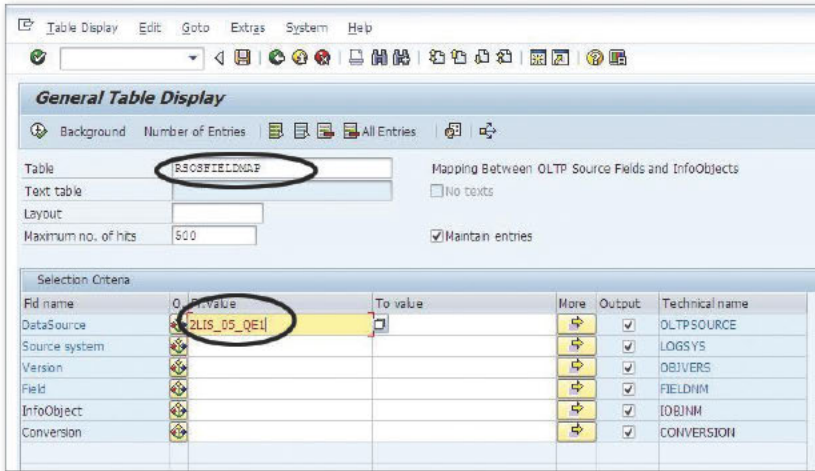

Figure 1 Transaction SE16N Screen for General Table Display
3. On the resulting screen, enter the table name "RSOSFIELDMAP" (see Figure 1). The screen displays the selection criteria for the table. Two commonly used selection criteria are the DATASOURCE or the INFOOBJECT name.